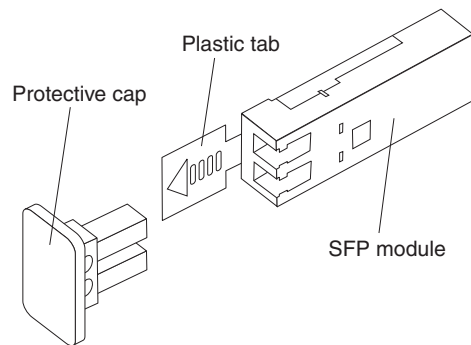

Figure 15. SFP module and protective cap
2. Remove the protective cap from the SFP module, as shown in Figure 15. Save the protective cap for future use.
2. If necessary, remove the protective cap from the SFP module, as shown in Figure 15 on page 28. Save the protective cap for future use.